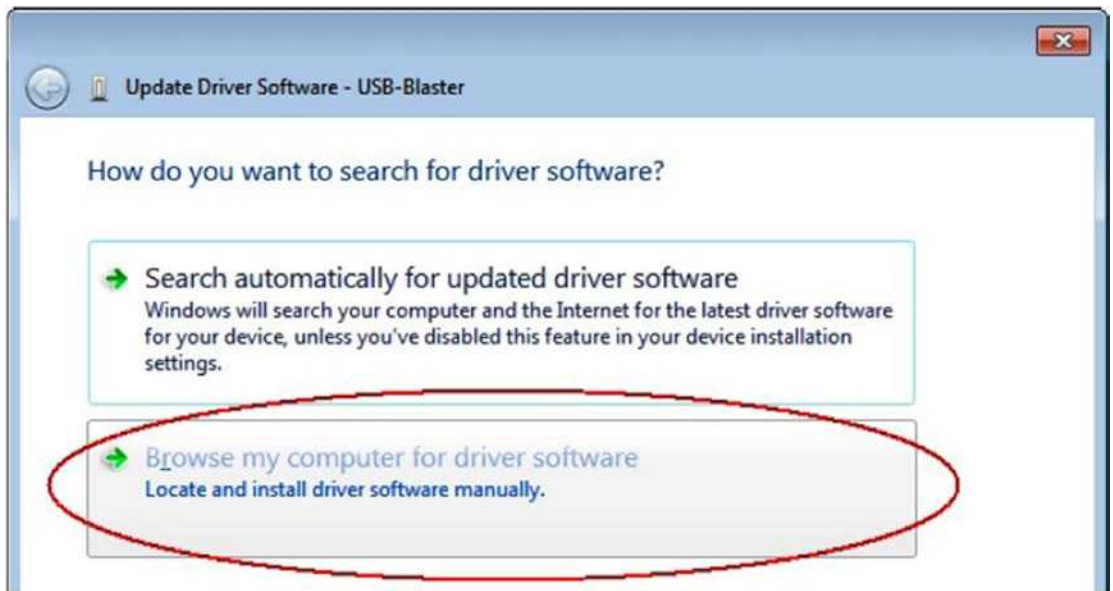

Figure 4-53. *Device manager*
3. Do not search automatically. Instead select **Browse my computer for driver software** (Figure 4-53).